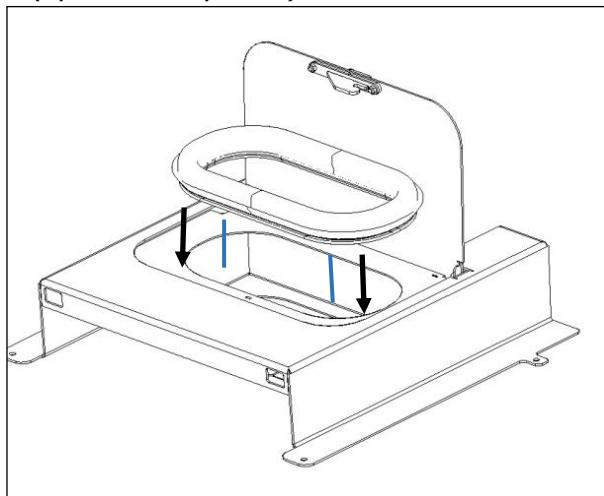

Figure 51 - Placement of the rubber seal on the top cover
- d) Insert the rubber seal, removed from indent c on the top cover of kit 1, as shown in Figure 51.